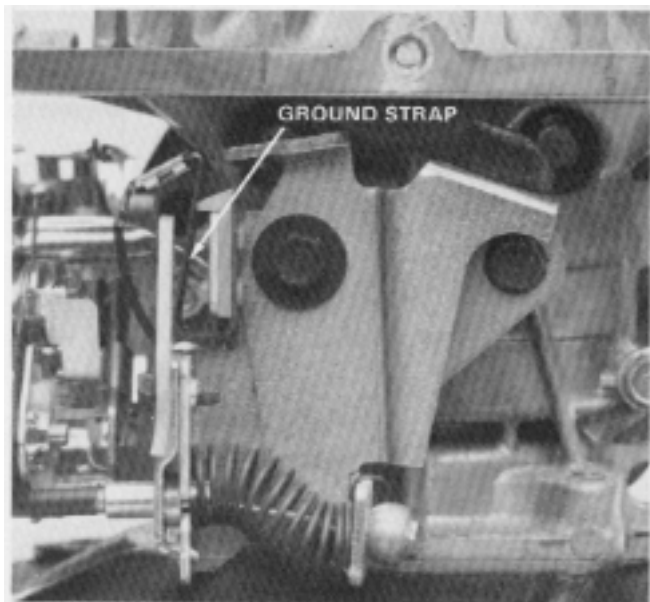

Figure 107
1. If the ground strap has been removed, fasten it to the mounting plate as shown in Figure 107.